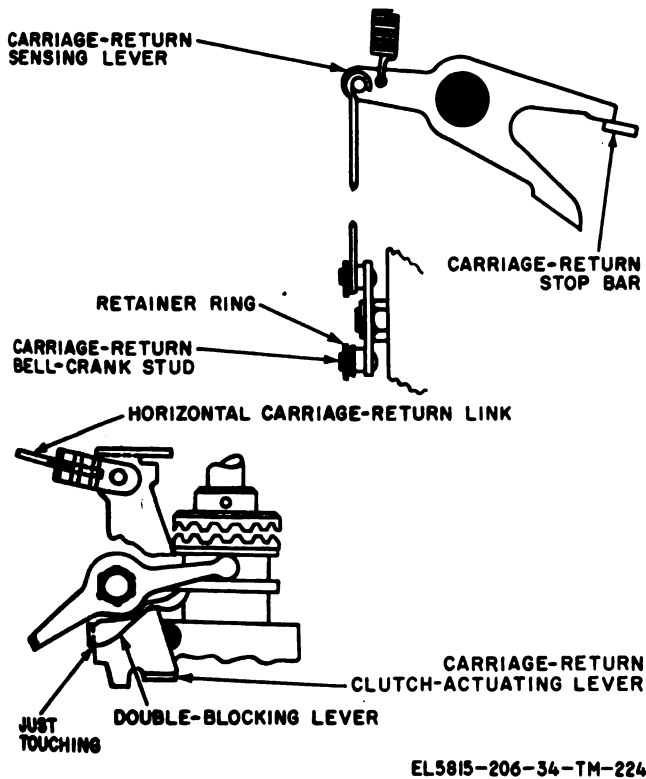

Figure 3-152. Carriage-return clutch adjustment (TT-4B/TG, TT-4C/TG, TT-335/TG, TT-537/G, TT-698A/TG, and TT-698B/TG ).
**3-185. Carriage-Return Clutch Adjustment (TT-4B/ TG, TT-4C/ TG, TT-335/ TG, TT-537/ G, TT-698A/ TG, and TT-698B/ TG) (fig. 3-152)**